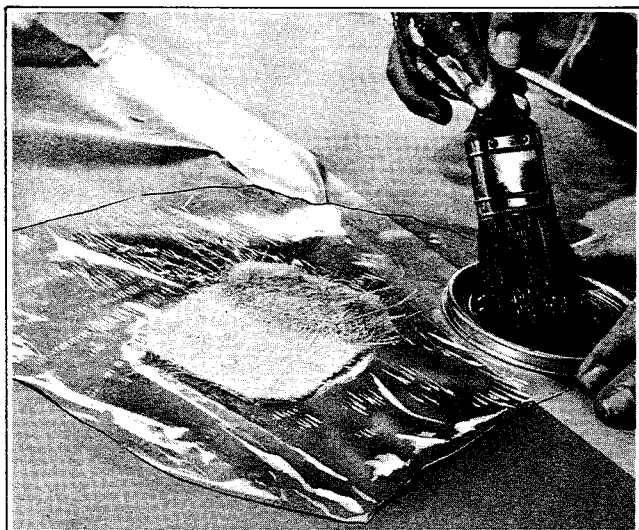

Figure 2-43. Applying Resin to Mat
6. Mix a small amount of pre-accelerated resin and catalyst and daub resin on mat, thoroughly wetting it out. This may be done on a piece of cellophane or wax paper. See Figure 2-43.